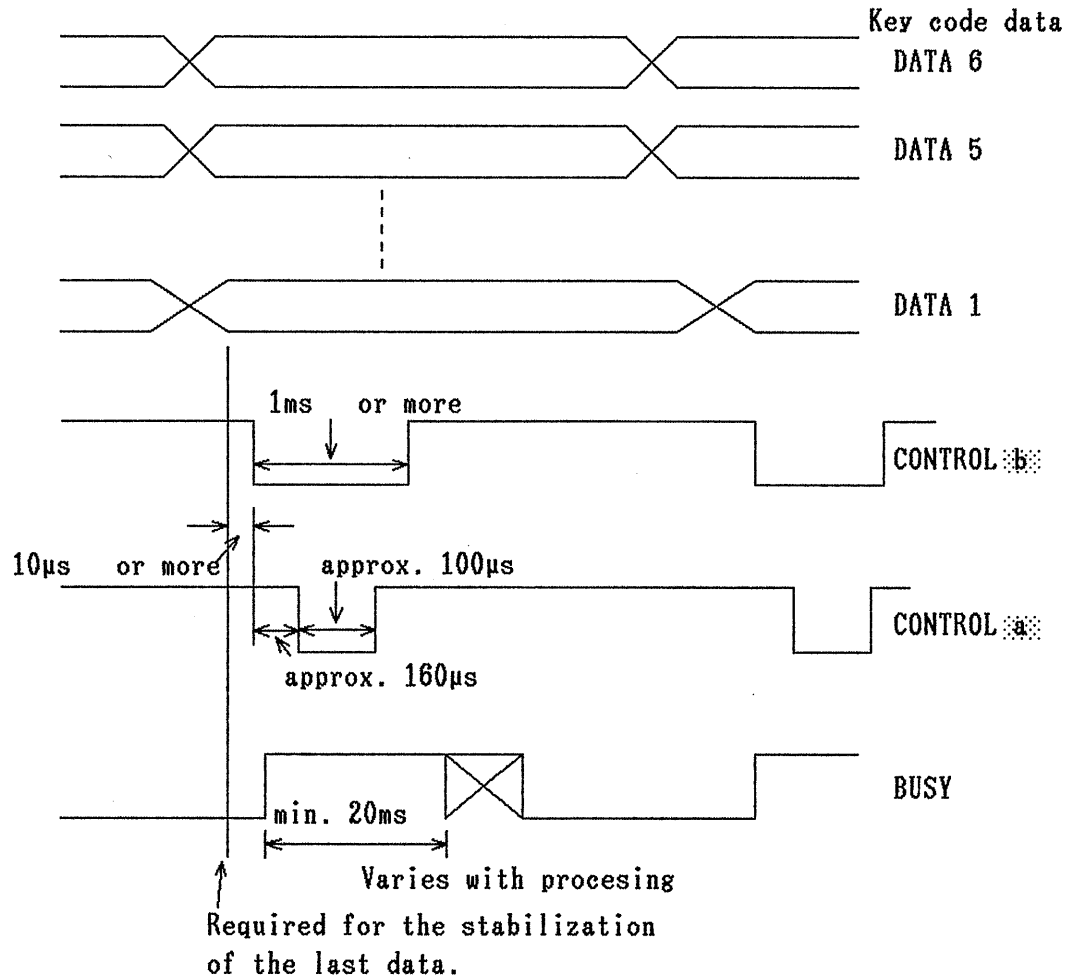

Figure 5-2
When the BUSY signal is "0", set the key code data (DATA1-6), and after the last data of DATA1-6 is established, wait for $10\mu\text{s}$ or longer. Then, set CONTROL **b** to "0" for 1ms or longer as shown in Figure 5-2.
- 2) Send CONTROL  which is set to "0" for 1ms or longer as shown in Figure 5-2 (input data timing).